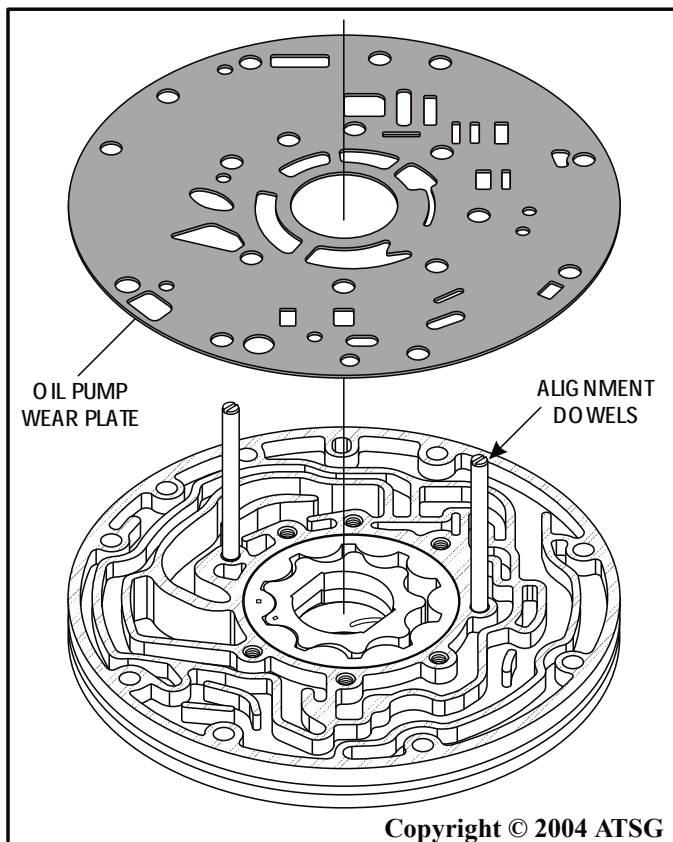

Figure 85
10. Install 2 alignment dowels made from spare bolts in pump body, as shown in Figure 85.
11. Install the oil pump wear plate over the dowels, as shown in Figure 85.